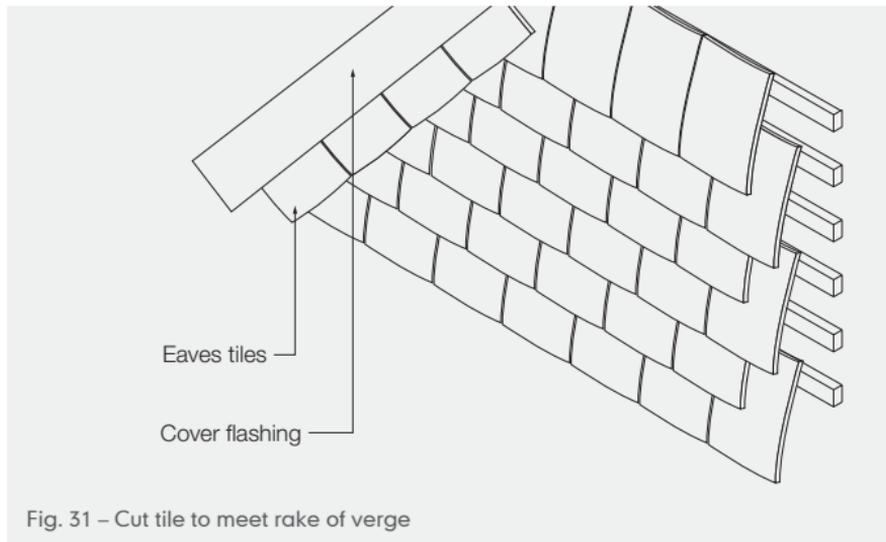

Fig. 31 – Cut tile to meet rake of verge
- 2 Cut vertical tiles to meet raking batten using tile-and-a-half tiles at end of each course (Fig. 31).